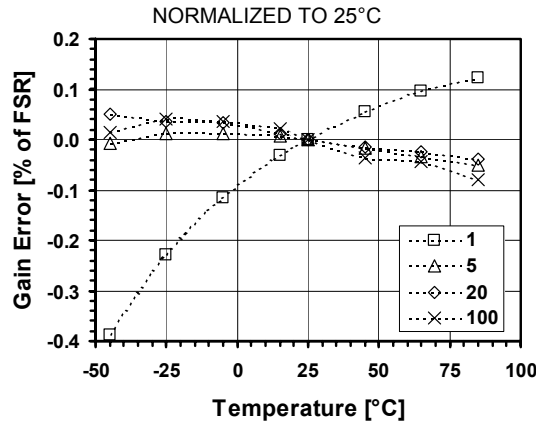

Figure 16-19. Gain error vs. temperature for different PGA gains
- (7) Resolution is given by  $n = 2 \cdot \log_2(OSR) + \log_2(N_{ELCONV})$ .  $OSR$  can be set between 8 and 1024, in powers of 2.  $N_{ELCONV}$  can be set to 1, 2, 4 or 8.
- (8) If a ramp signal is applied to the input, all digital codes appear in the resulting ADC output data.
- (9) Gain error is defined as the amount of deviation between the ideal (theoretical) transfer function and the measured transfer function (with the offset error removed). (See Figure 16-19)
- (10) Offset error is defined as the output code error for a zero volt input (ideally, output code = 0). For  $\pm 1$  LSB offset,  $N_{ELCONV}$  must be  $\geq 2$ .
- (11) INL defined as the deviation of the DC transfer curve of each individual code from the best-fit straight line. This specification holds over the full scale.
- (12) DNL is defined as the difference (in LSB) between the ideal (1 LSB) and measured code transitions for successive codes.
- (13) Figures for Gains = 1 to 100. PSRR is defined as the amount of change in the ADC output value as the power supply voltage changes.
- (14) Conversion time is given by:  $T_{CONV} = (N_{ELCONV} \cdot (OSR + 1) + 1) / f_s$ .  $OSR$  can be set between 8 and 1024, in powers of 2.  $N_{ELCONV}$  can be set to 1, 2, 4 or 8.
- (15) PGAs are reset after each writing operation to registers RegAcCfg1-5. The ADC must be started after a PGA or inputs common-mode stabilisation delay. This is done by writing bit *Start* several cycles after PGA settings modification or channel switching. Delay between PGA start or input channel switching and ADC start should be equivalent to  $OSR$  (between 8 and 1024) number of cycles. This delay does not apply to conversions made without the PGAs.
- (16) Nominal (maximum) bias currents in PGAs and ADC, i.e.  $IB\_AMP\_PGA[1:0] = '11'$  and  $IB\_AMP\_ADC[1:0] = '11'$ .
- (17) Bias currents in PGAs and ADC set to 3/4 of nominal values, i.e.  $IB\_AMP\_PGA[1:0] = '10'$ ,  $IB\_AMP\_ADC[1:0] = '10'$ .
- (18) Bias currents in PGAs and ADC set to 1/2 of nominal values, i.e.  $IB\_AMP\_PGA[1:0] = '01'$ ,  $IB\_AMP\_ADC[1:0] = '01'$ .
- (19) Bias currents in PGAs and ADC set to 1/4 of nominal values, i.e.  $IB\_AMP\_PGA[1:0] = '00'$ ,  $IB\_AMP\_ADC[1:0] = '00'$ .
Figure 16-19 shows gain error drift vs. temperature for different PGA gains. The curves are expressed in % of Full-Scale Range (FSR) normalized to 25°C.